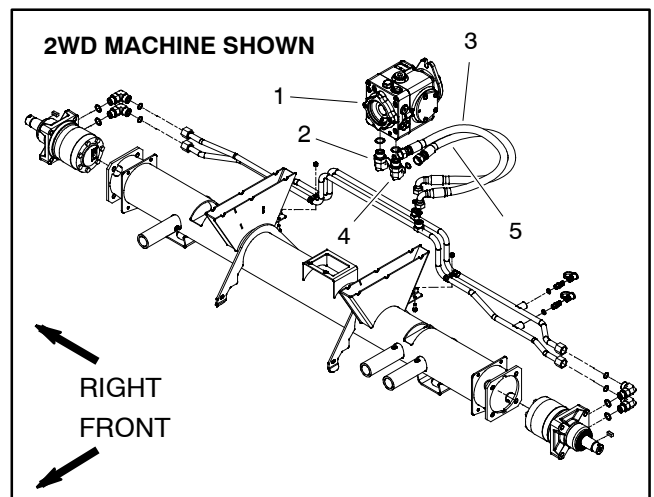

Figure 36
6. Thoroughly clean junction of hydraulic hose and **right** side elbow fitting on bottom of piston (traction) pump (Fig. 36). Disconnect hose from piston (traction) pump fitting.